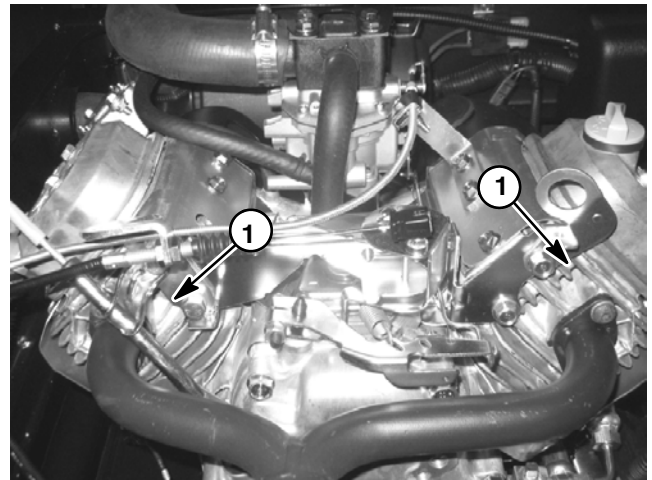

Figure 3
4. Clean cooling fins on both cylinder heads (Fig. 3).